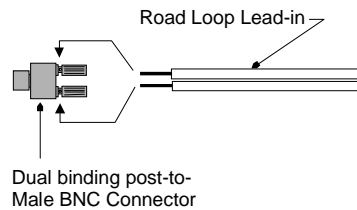

Figure 29 Post to Male BNC Connector
- Step 11:** Carefully review the installation to this point. If everything is correct, cut away the excess wire, trim and attach the other end of the Road Loop wire to the other half of the binding-post-to-BNC connector (Figure 29).